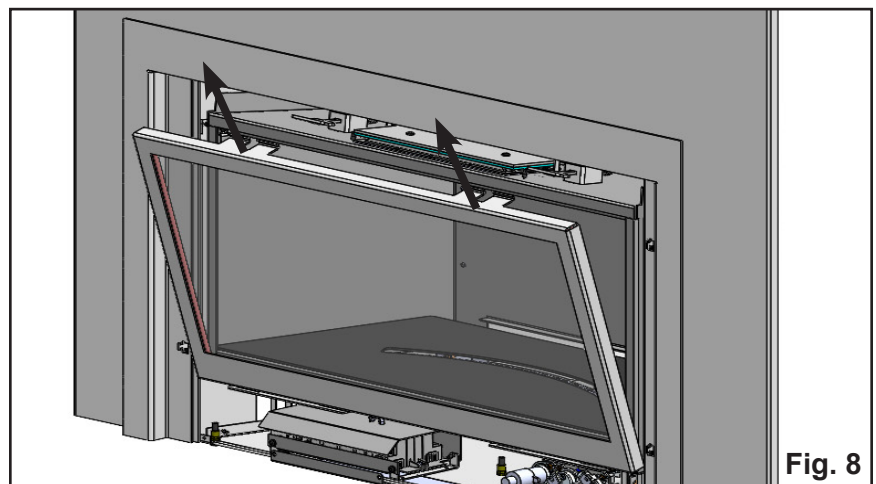

Fig. 8
4. Remove the Door by lifting it out of the lower door hooks (**Fig. 8**). **Note: Press the door glass to the door frame when removing as the glass is only held in place with silicone.** Remove the warning label affixed to the door glass at this time.